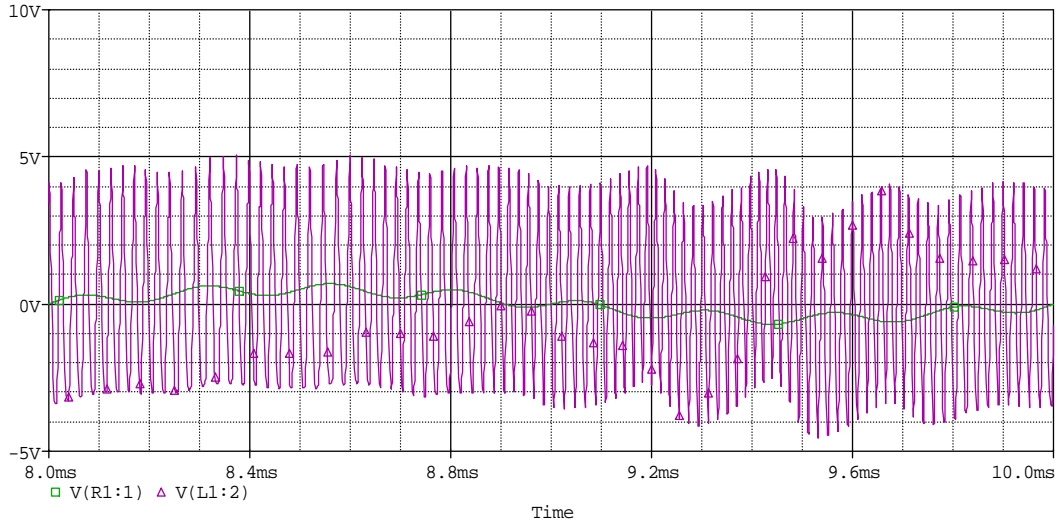
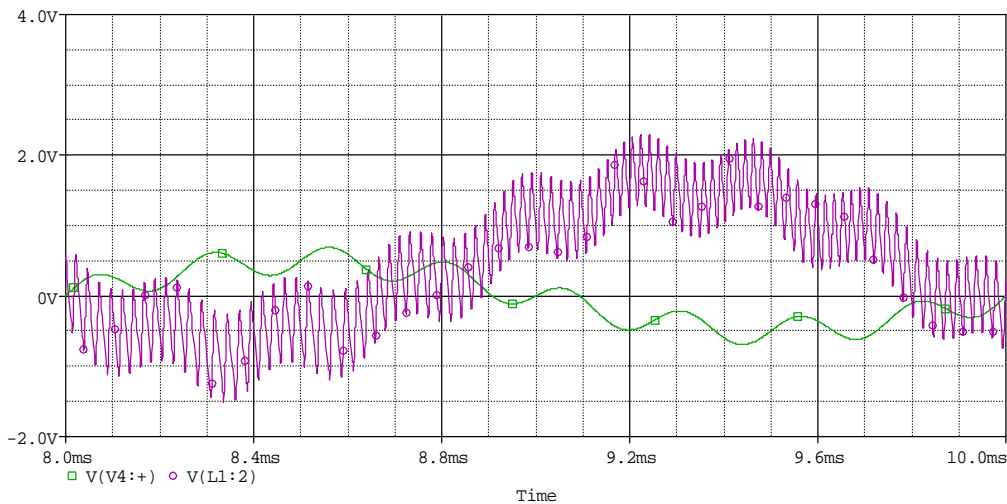
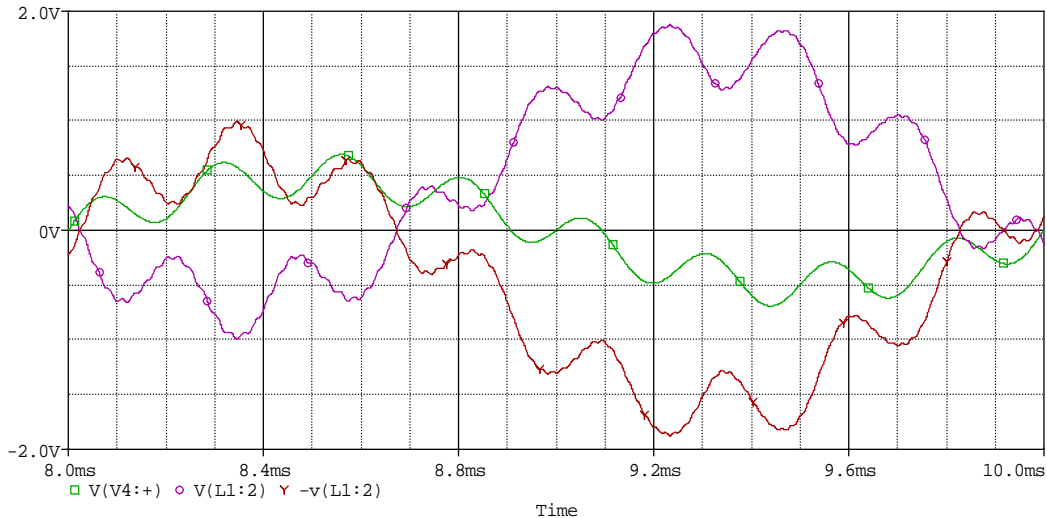

Figure 7 – “wide-angle” view
Figure 10
Figure 13
design to give you a poor quality reconstruction of the signal at the output. The input (point A) and output (point H) of the simulation should look something like figure 7. The input is one cycle of the lower frequency sine wave (at 500 Hz) with eight cycles of the higher frequency wave (at 4k Hz) superimposed on it. As you can see, the output shows some of the features of the input, but it consists mainly of the high frequency samples taken by the 555-timer oscillating between about minus 5V and plus 5V.
*What the integrator should do:* When you integrate the modulated signal, you take advantage of the fact that the pulses vary in frequency. Your pulses (at point E) are square waves centered around zero. When you are on the positive part of the pulse, the signal (the integration of a positive constant) ramps up. When you are on the negative part of the pulse, the signal (the integration of a negative constant) ramps down. Since the pulses vary in frequency (and width) with the signal, adding this integration will bring out the variation in the amplitude of the original signal. Figure 10 shows the input (point A) and the output (point H) of the PSpice model with an appropriate integrator added. Note that you can still see the sampling pulses, but the output (which is inverted) captures the overall shape of the wave much better. You can see both the shape of the lower frequency and the higher frequency of the input.
*Testing your choice with PSpice:* Once you have chosen an integrator and your target component values, try adding the integrator to the PSpice model. Run the simulation and see if it works. Note that you will probably have to increase the of E2 by a factor of 10 (to 10). If you have to do this in PSpice, do not forget to also add the 10 $\mu$ F capacitor between pins 1 and 8 of the 386 amplifier in your protoboard circuit. Try adjusting the value of the capacitor until you get a good integration with adequate final amplitude. Remember, you don't need to worry about the pulses from the 555-timer sampling. You just want to get a good reconstruction of the input with the sampling pulses superimposed on it as shown in figure 10. [If you need to, you can use the inverting amplifier to change the gain as well.]
*What the smoothing capacitor should do:* Recall that when you added a smoothing capacitor to the output of a rectifier, the bumps from the rectified signal were smoothed over and the output was much more even. You can apply this concept to the signal in this circuit as well. If we add a smoothing capacitor of the correct size between point F and ground, we should be able to smooth out the pulses caused by the sampling and come up with an even closer reconstruction of the original audio wave. Figure 13 shows the result of adding a smoothing capacitor to the integrated signal. It shows the original input (at point A), the output of the circuit (at point H), and the inversion of the output (at point H). Note that the original input frequencies have been preserved, but the pulses (that are shown in figure 10) have been largely eliminated. Aside from a change in amplitude, a slight time delay, and some inconsistencies in DC offset (caused by the integration), the input and the output are now very much the same. You can see that this is a substantial improvement over the initial data shown in figure 7.